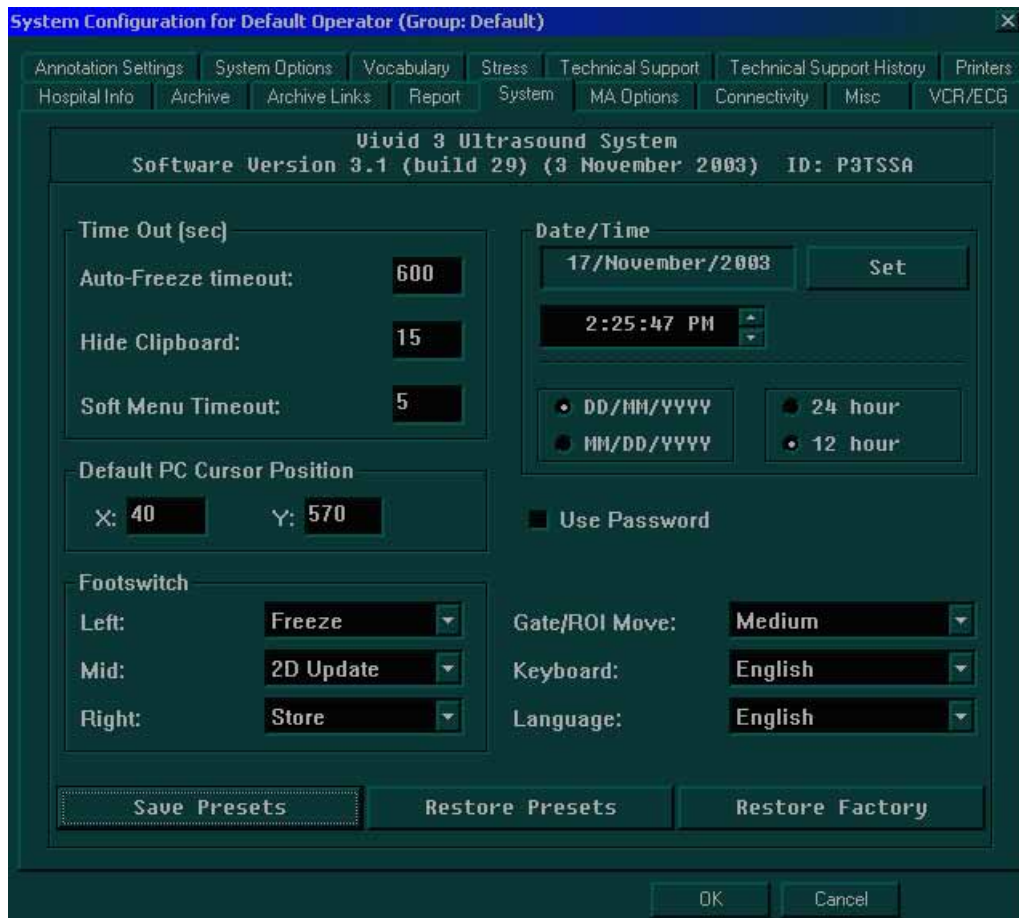

Figure 3-22 System Tab
- In the **Default PC Cursor Position** area, specify the default location of the PC cursor on the screen by entering the X and Y coordinates into the **X** and **Y** fields. The Figure 3-22, above indicates the recommended default factory setup for X and Y.